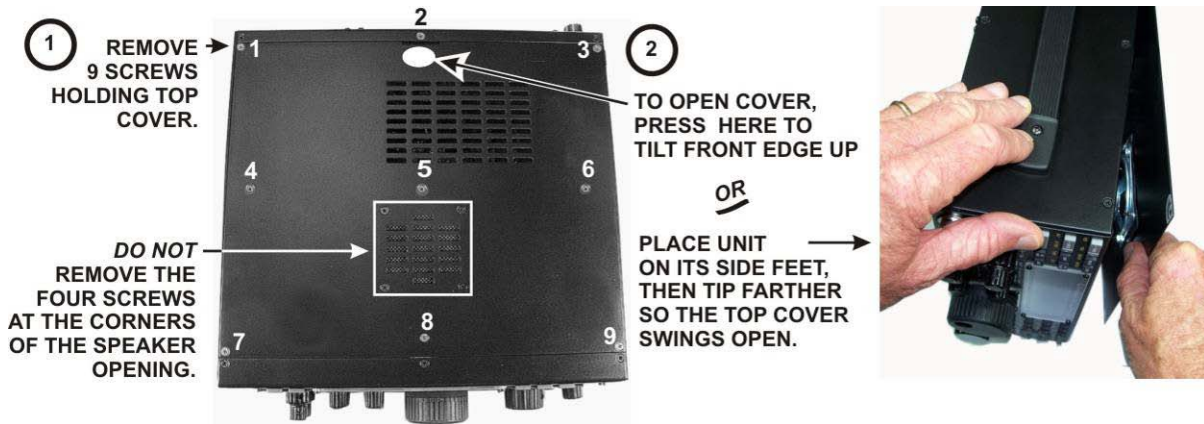

Figure 2. Removing K3S or K3 Top Cover.
- Remove the nine screws to free the top cover as shown in Figure 2. After the cover is open, lift it gently to reach the speaker wire connector. Unplug the speaker then set the top cover aside in a safe place. If you have the K144XV 2-meter option installed, slip the speaker wire under the chassis stiffener bar that runs across the top of the K3S or K3 along the depression in the top of the K144XV module.